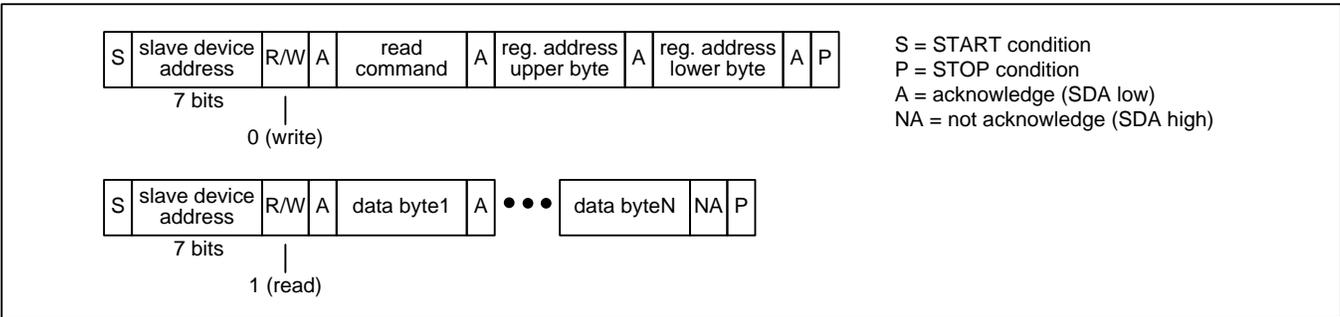
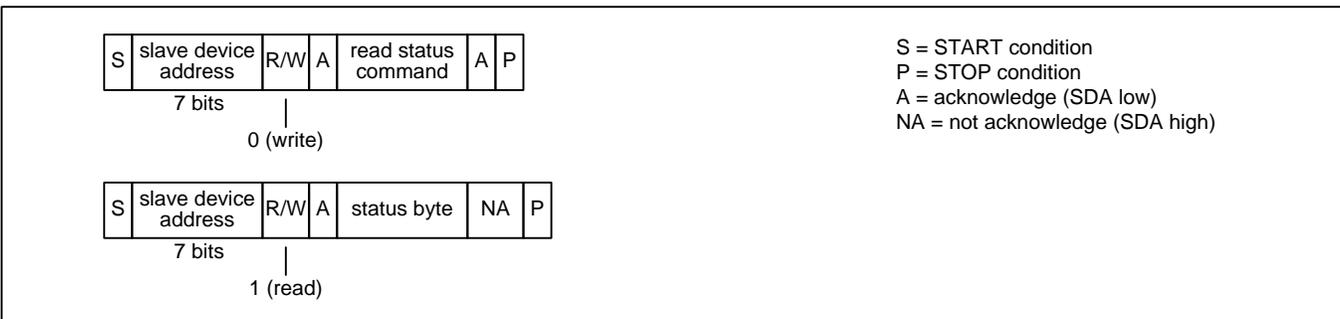

Figure 9 - I2C Read Transaction Functional Timing
Figure 12 - I2C EEPROM Read Status Transaction Functional Timing (ZL30261 and ZL30263 Only)
**Read Transactions.** The device registers are accessible when the **EESEL** bit is 0. On ZL30261 and ZL30263 the internal EEPROM memory is accessible when the **EESEL** bit is 1. On ZL30260 and ZL30262 the **EESEL** bit must be set to 0. The bus master first does an I2C write to the device. In this transaction three bytes are written: the SPI Read command (see Table 3), the upper byte of the register address, and the lower byte of the register address. The bus master then does an I2C read. During each acknowledge (A) bit the device fetches data from the read address and then increments the read address. The device then transmits the data to the bus master during the next 8 SCL cycles. The bus master terminates the read with a not-acknowledge (NA) followed by a STOP condition (P). See Figure 9. After the I2C write there can be unlimited idle time on the bus before the I2C read, but the device cannot tolerate other I2C bus traffic between the I2C write and the I2C read. Care must be taken to ensure that the I2C read is the first command on the bus after the I2C write to ensure the two-part read transaction happens correctly.
**EEPROM Read Status (ZL30261 and ZL30263 Only).** The bus master first does an I2C write to transmit the SPI Read Status command (see Table 3) to the device. The bus master then does an I2C read to get the status byte. In this byte, the least significant bit is set to 1 if the transfer is still in progress and 0 if the transfer has completed. See Figure 12. Similar to read transactions described above, the I2C write and the I2C read cannot be separated by other I2C bus traffic.
Note: In Figure 9 through Figure 12, a STOP condition (P) immediately followed by a START condition (S) can be replaced by a repeated START condition (Sr) as described in the I2C specification.